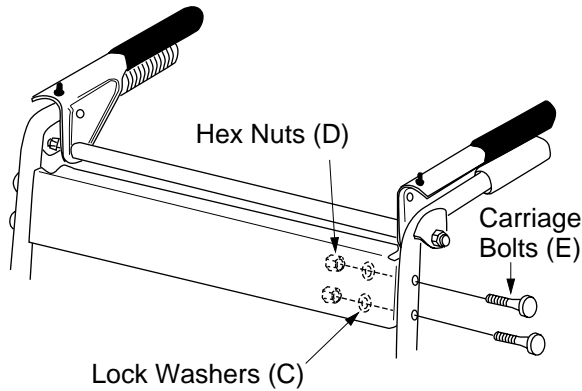

Figure 8
Position the handle panel between handles. Insert carriage bolts (E) and secure with lock washers (C) and hex nuts (D). See Figure 8.